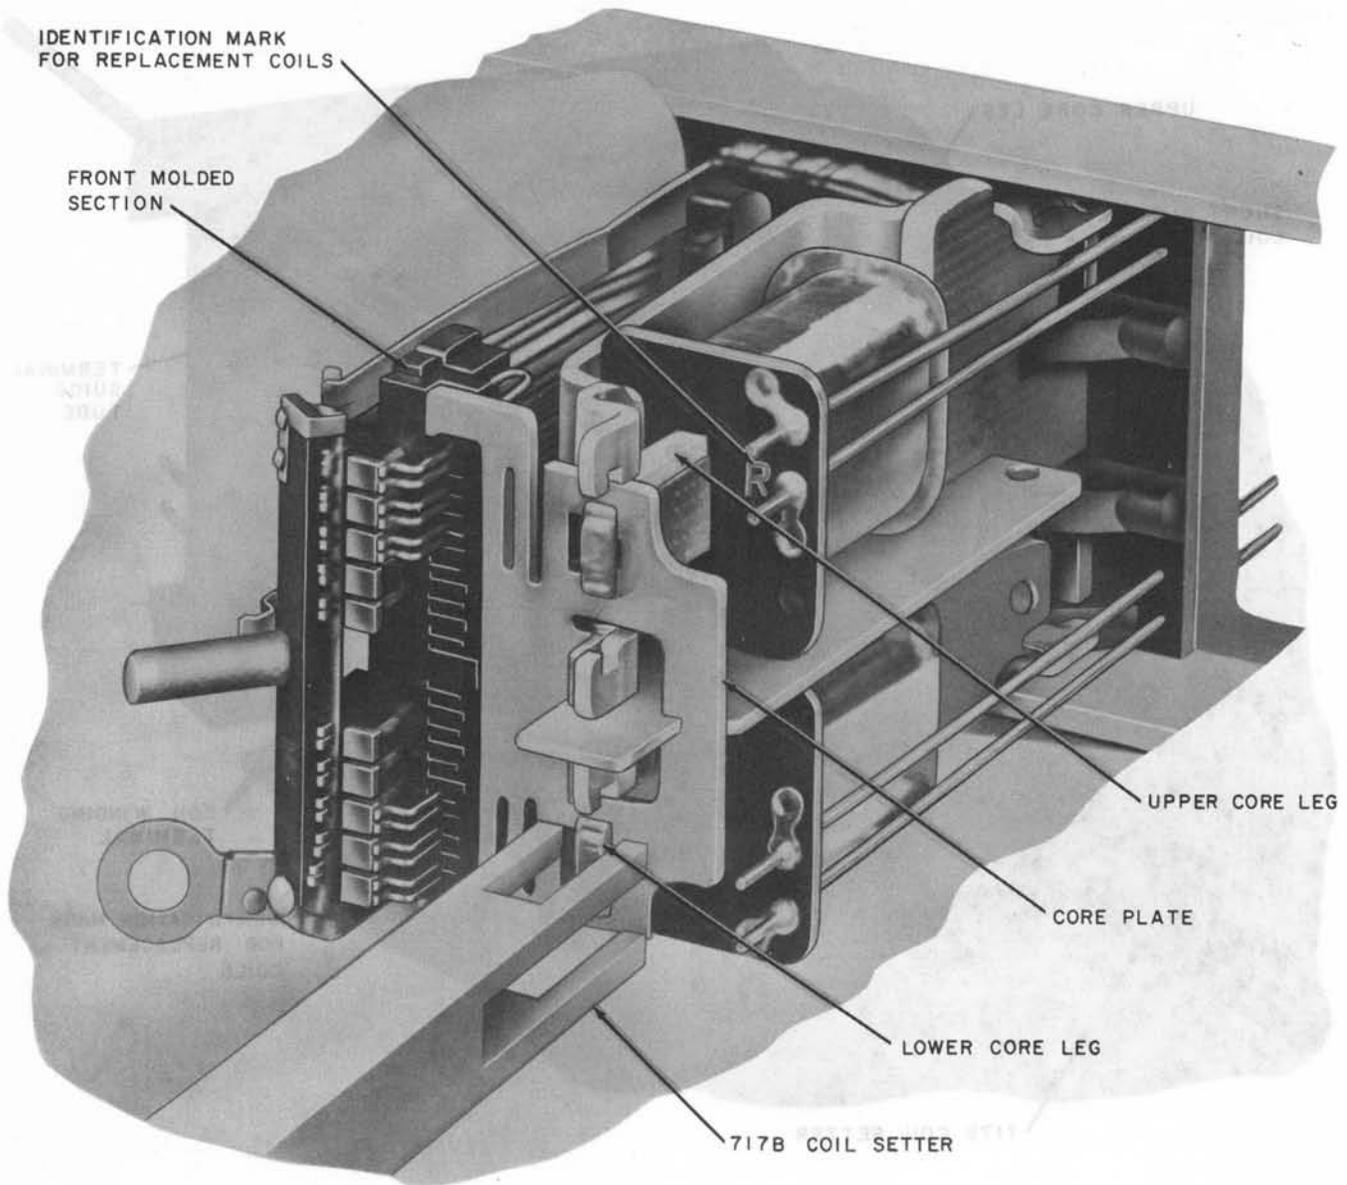

Fig. 35—Positioning Core Plate With 717B Coil Setter
(a) Place the tip of the KS-6320 orange stick against the center portion of the front molded section of the relay and push the molded section to the left. Position the new core plate in front of the core legs with the armature stop on the core plate facing away from the relay. Manually start the core plate on the core legs and position the upper and lower portion of the front molded section against the core plate. Using the 717B coil setter and the 4-ounce riveting hammer, gently tap the core plate into position on the core legs. Fig. 35 shows the coil setter being
- (b) The force of the front molded section (Fig. 35) of the single wire block against the core plate drops to less than about 25 grams at top or bottom. Gauge by feel. This force prevents movement of the fixed contacts, and is normally over 200 grams.